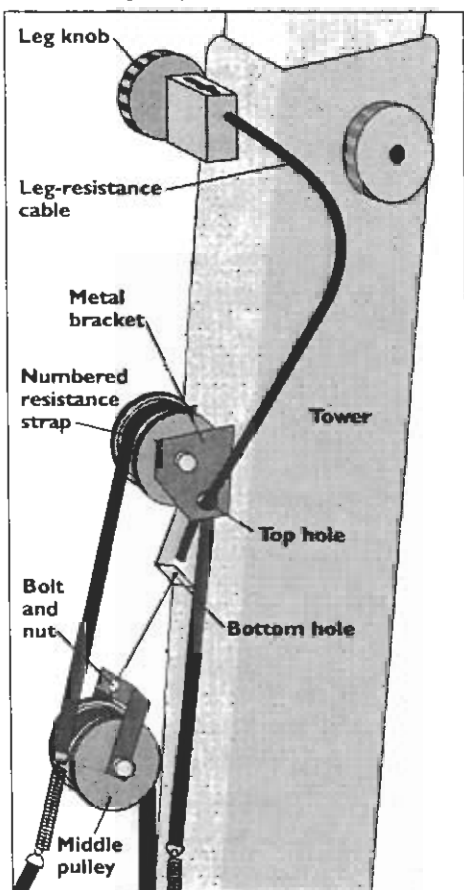

Figure 23
3. Loosen the bolt and nut on the middle pulley where the cable enters (Figure 23). Do not remove the bolt and nut completely.